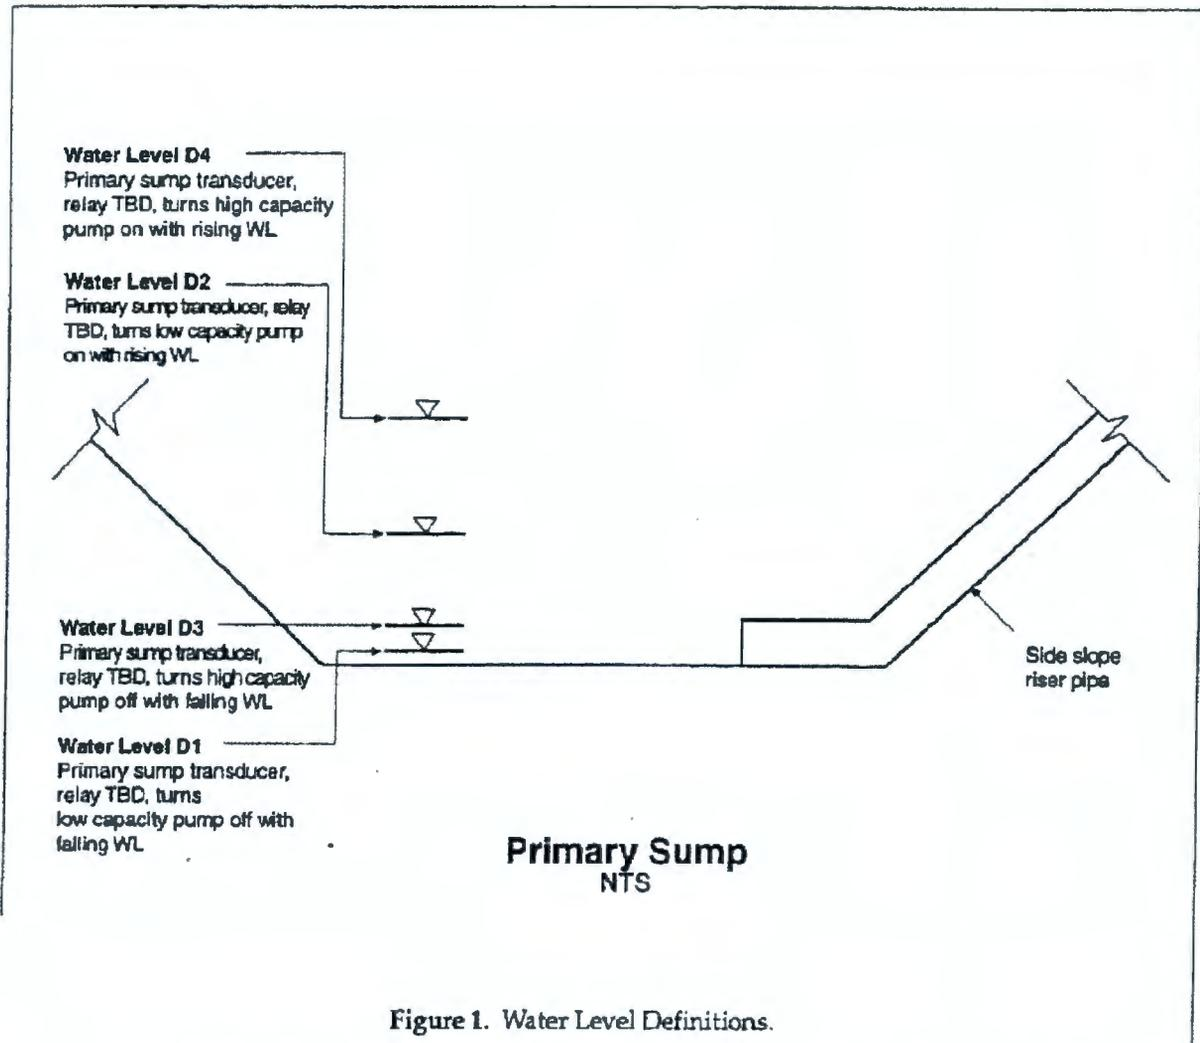

Figure 1. Water Level Definitions.
- Values used to simulate process inputs (such as water levels D1, D2, D3, D4, etc. - See Figure 1) and alarm conditions for execution of ATP have been provided.
This Acceptance Test will demonstrate the correct functioning of the level transducers and the associated meter/controllers. See Figure 1 for definitions of water levels and associated pumps and relays. Verify that the level transducers have been calibrated prior to installation.
This Acceptance Test will demonstrate the correct functioning of the high capacity (Pump 1) and low capacity (Pumps 2 and 3) leachate pumps and associated controls. See Figure 1 for definitions of water levels and associated pumps. For each of the leachate pumps, measure the phase currents prior to beginning pumping tests. Record this information on the top of the appropriate test data forms. Verify that motor overload devices are sized correctly.
Secondary Sump: DS-1 (same as Water Level D1 on Figure 1), DS-2 (same as Water Level D2 on Figure 1)